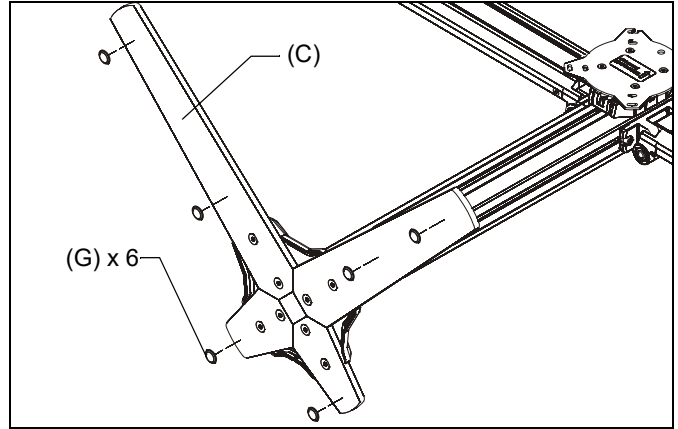

Figure 6
- Apply bumpers (G) to underside of table top base (C). (See Figure 6)